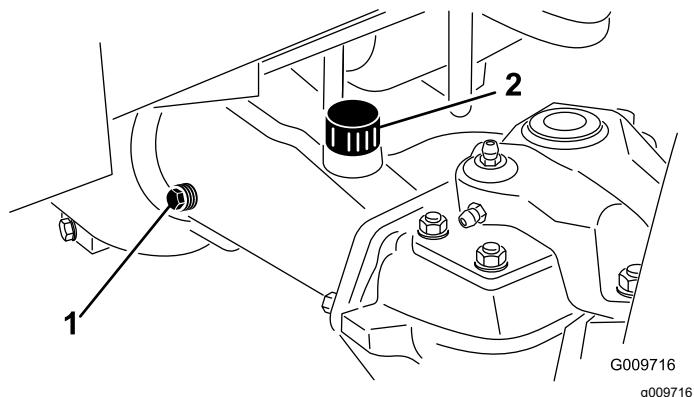

Figure 134
4. Remove the 2 axle housing check plugs and the fill plug to ease in draining of the oil (Figure 134).